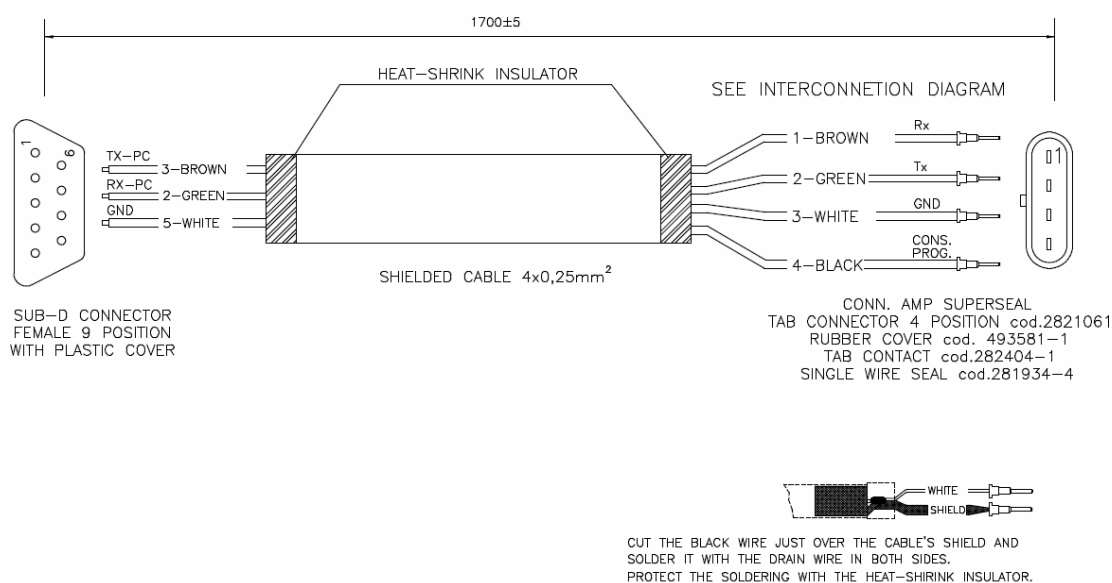

Figure 5: Serial Interconnection cable.
- RS-232 serial port, using an interconnection cable (SME Code IV049A, Figure 5);